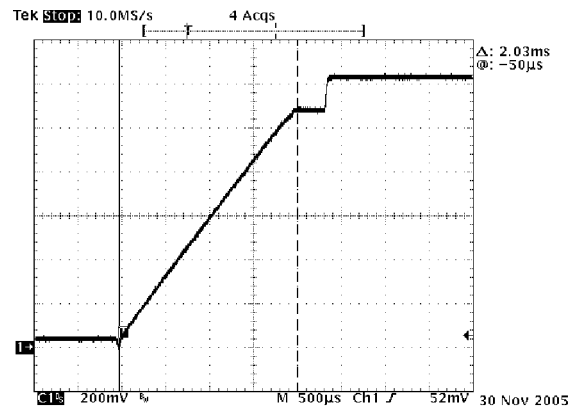

Figure 24. VR11 Startup
The controller supports two different startup routines. A legacy VR10 ramp to the initial VID code, or a VR11 Ramp to the 1.1 V VID code, with a pause to capture the VID code then resume ramping to target value based on an internal slew rate limit. See Figures 24 and 25. The controller is designed to regulate to the voltage on the SS pin until it reaches the internal DAC voltage. The soft-start cap sets the initial ramp rate using a typical 5.0 μA current. The typical value to use for the soft-start cap (SS), is typically set to 0.01 μF. This results in a ramp time to 1.1 V of 2.2 ms based on equation 1.